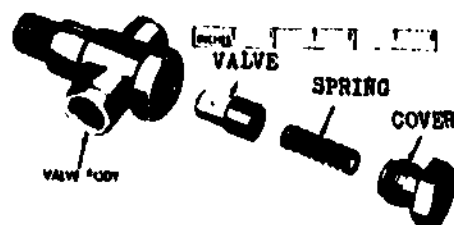

Fig 3-8. Fuel overflow valve.
i. Fuel overflow valve (fig 3-8). About 75% of the fuel supplied to the injection pump hydraulic head is not sent to the engine cylinders. Most of this excess fuel flows from an outlet on the hydraulic head to the fuel overflow valve and back to the fuel tank. The fuel overflow valve is screwed directly into the hydraulic head and has a spring-loaded valve. The valve has a small opening that allows a constant flow of fuel through the hydraulic head so that any air caught in the passages can escape. The opening also serves as a continuous bleed of fuel to cool the injection pump. When the pressure of the fuel supplied to the hydraulic head exceeds the spring pressure holding the overflow valve on its seat, the valve opens, allowing more fuel to be bypassed to the fuel tank. In this way it controls minimum pressure at low rpm and maintains a constant fuel pressure to the hydraulic head.